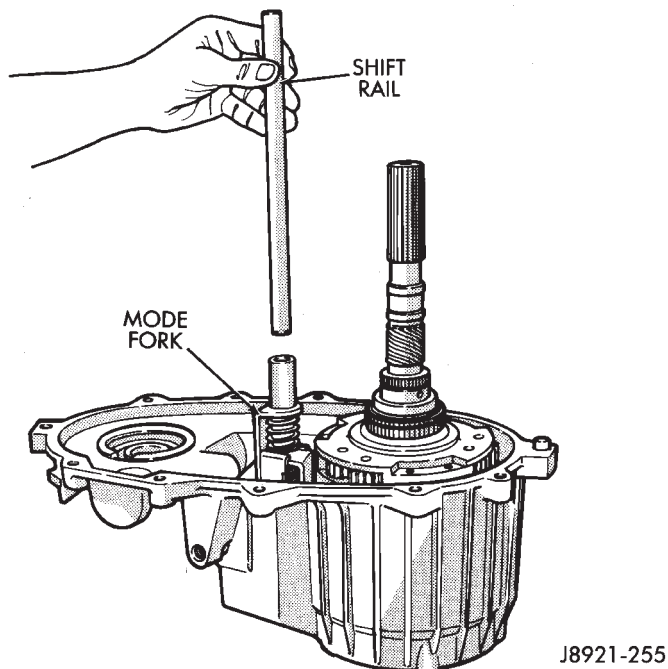
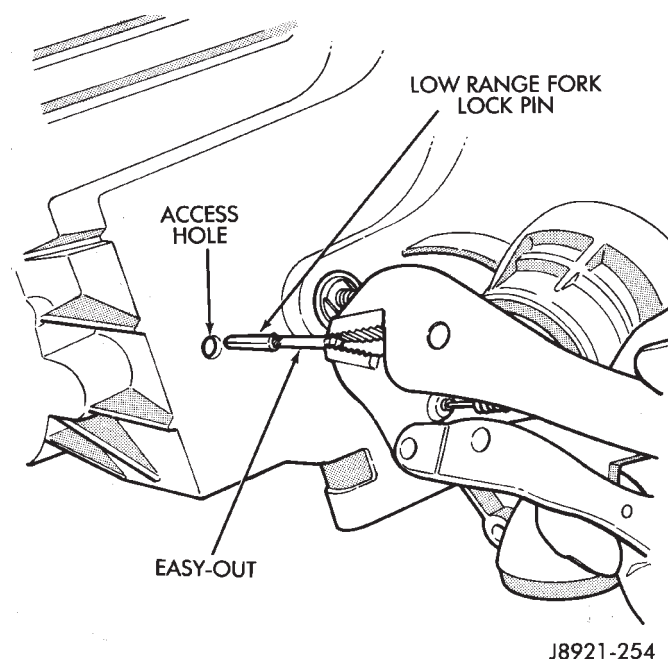

Fig. 75 Shift Rail Installation
Fig. 76 Installing Low Range Fork Lockpin
(18) Install shift rail (Fig. 75). **Be sure rail is seated in both shift forks.**
(19) Rotate shift sector to align lockpin hole in low range fork with access hole in case.
(20) Insert an easy-out in range fork lockpin to hold it securely for installation (Fig. 76). **Lockpin is slightly tapered on one end. Insert tapered end into fork and rail.**
(21) Insert lockpin through access hole and into shift fork (Fig. 76). Then remove easy-out and seat the pin with pin punch.